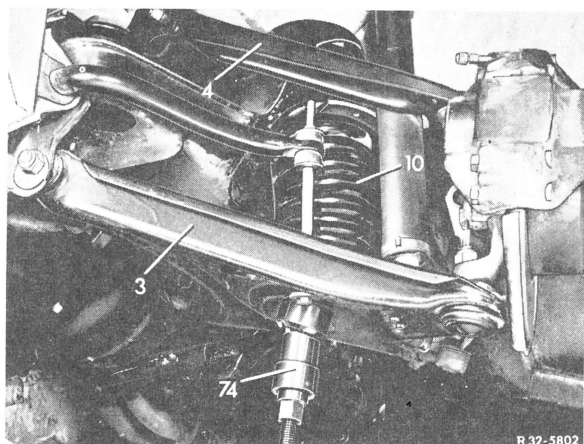

Fig. 4
- 5 Tension front spring (Fig. 4).